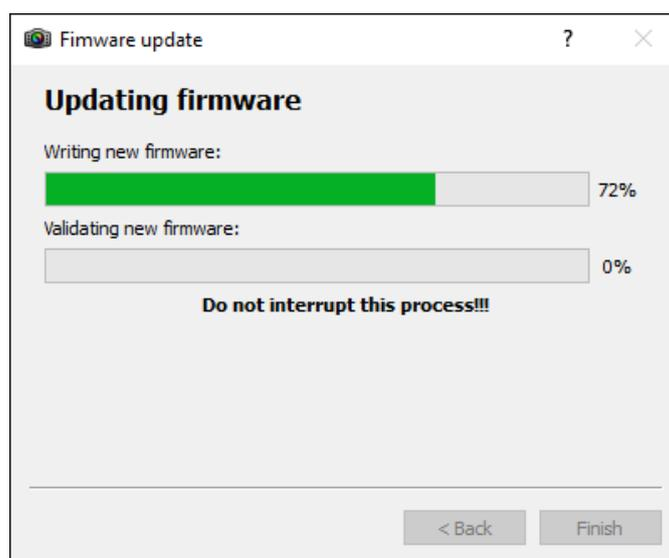

Figure 41 – Firmware update process window
4. The following window displays the initiated firmware update. The firmware update process is displayed in the first progress bar, and the firmware validation is displayed in the second, as shown in Figure 41.